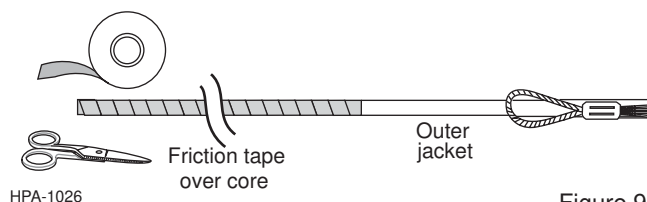

Figure 9
4.8 Beginning at the end of the outer jacket, wrap one layer of friction tape over the entire length of the exposed cable core. The friction tape should follow the direction of the sub-units or buffered fibers twists (Figure 9).